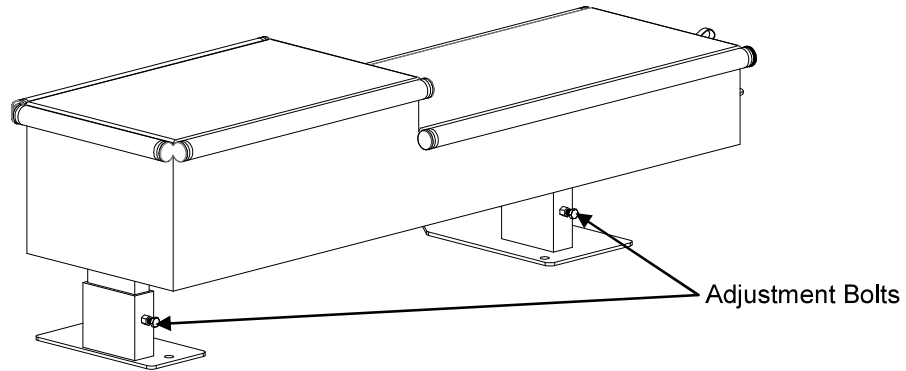
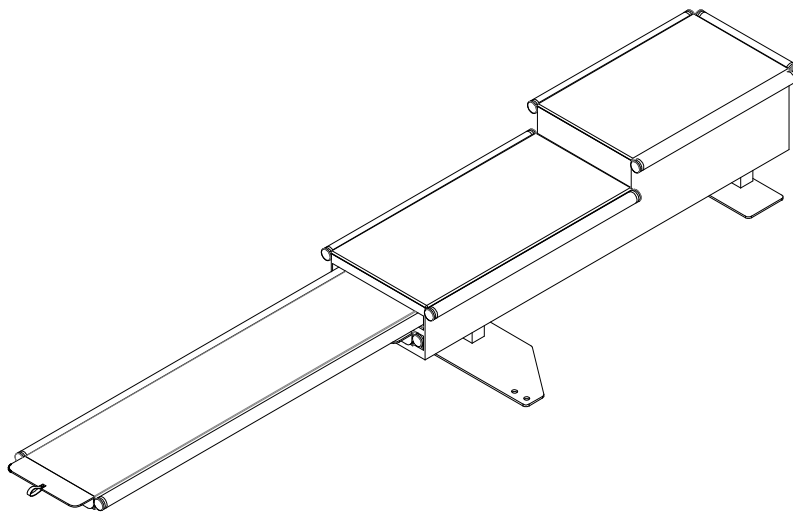
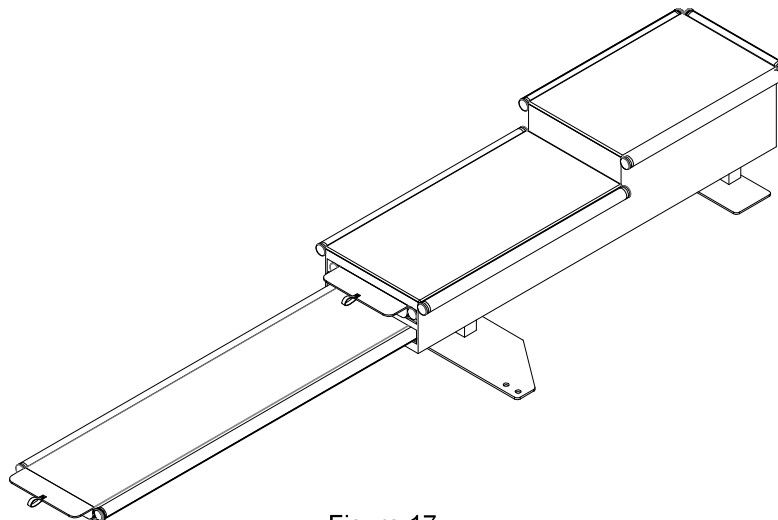

Figure 15
Figure 16
Figure 17
- Install Support Grab Rail by removing pipe covers on EZ Port MAX and securing the base of the support grab rail with four (4) bolts.
- Secure Transfer Bench with two (2) bolts into the tee-nuts on the EZ Dock dock section and two (2) lag bolts directly into EZ Dock couplers.
- After the transfer bench and support grab rail have been mounted the bench boards need to slid out to ensure that they are level and rest of the opposing bench tray support bar on the support grab handrail. The height of the bench can be adjusted (see figure 15) by loosening and sliding the bench unit up or down. Once the bench is in the desired position tighten the height adjustment nuts. The bench trays should slide out and rest on the grab support rail easily.
The EZ Dock Accessible Transfer System has numerous way to adjust the height of the bench to satisfy virtually any application. The entire bench can adjust vertically by simply loosening two bolts (Figure 15). Figure 16 utilizes the upper transfer plank for taller freeboard watercrafts such as a canoe. Figure 17 utilizes the lower transfer plank for shorter freeboard watercrafts such as a kayak.